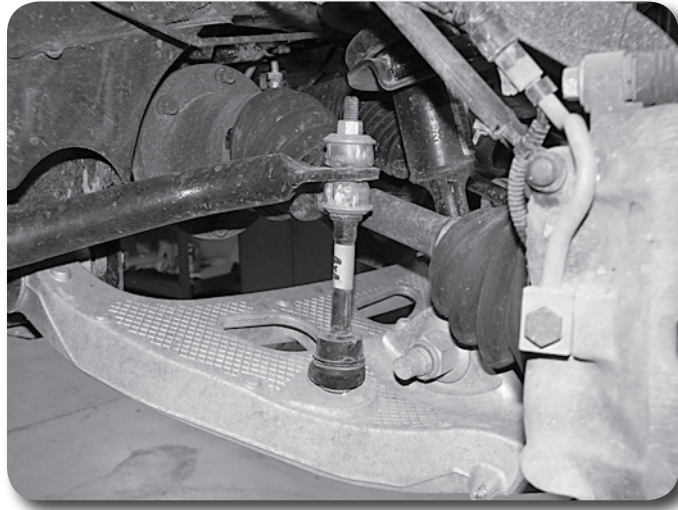

Figure 1
There are two different styles of sway bar links on the 04-08 model F-150s. The links will either have a stem of ball joint mount at the sway bar. The ball joint model is shown in figure 1.
4. Disconnect the driver's and passenger's side sway bar links from the sway bar **Figure 1**. Save link hardware.